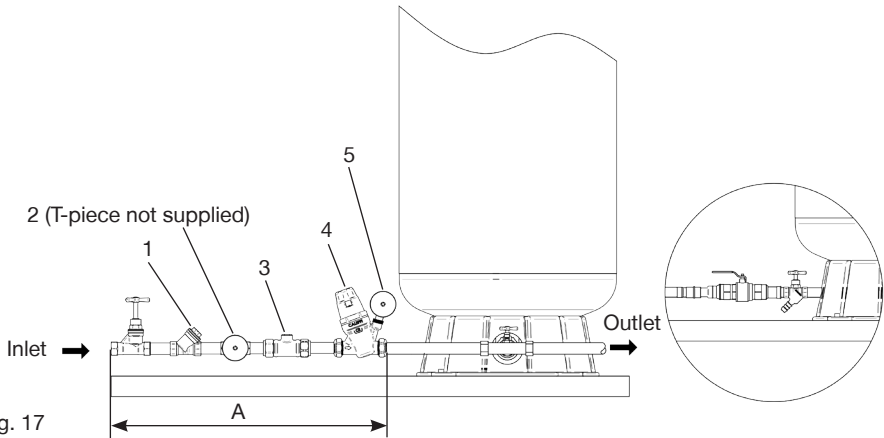

Fig. 17
- The vessel assembly should then be positioned and checked to ensure there is sufficient space to install the upstream line-in kit between the stopcock and pressure vessel inlet. Refer to the chart (Fig. 17) as a guide.